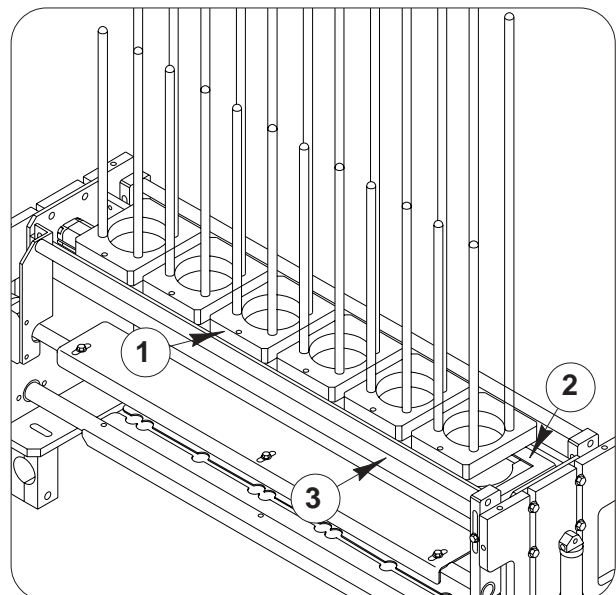

Fig. 3.4
- Replace the storage containers of the cone loading station (*Part 1 Fig.3.4*)
- Replace the blades of the cone stopping blades (*Part 2 Fig.3.4*)
- Adjust the height of the cone storage containers crossbeam (*Part 3 Fig.3.4*)